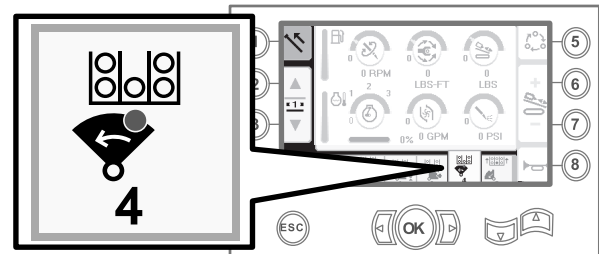

Figure 16
8. Release the rocker switch to proceed to the next step in the sequence (Figure 16).